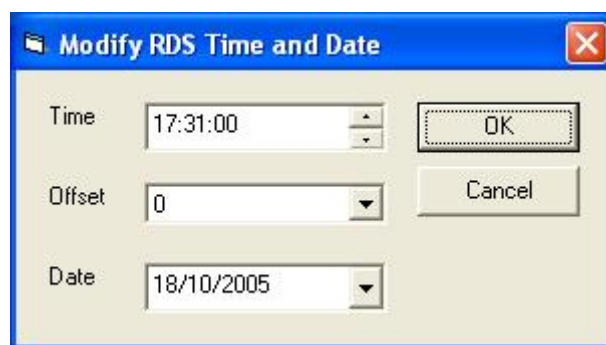

Figure 2.4 BW RDS2 Time & Date modification sub window.
1. **Enable:** This enables the RDS encoder to broadcast clock time information (CT). This button is a ‘Real-Time’ button and does not require the SEND button to be pressed to have an effect.
3. **Modify:** This button allows you to manually modify the RDS field date and time information (see Figure 2.4). RDS time is always set as UTC (GMT) time plus or minus an offset to reflect the time zone that the unit is being operated in.